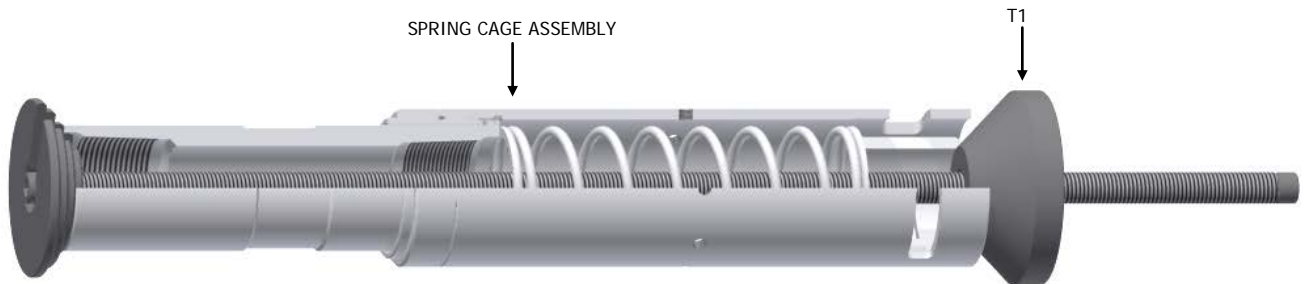

Fig. 3
K-1.1.3) Compress compression spring (4) with assembly tool (T1) (Fig. 3).